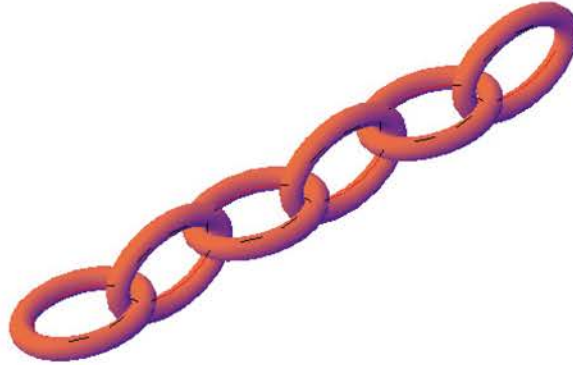

Fig. 10.17 Exercise 3
3. Each link of the chain shown in Fig. 10.17 has been constructed using the tool **Extrude** and extruding a small circle along an elliptical path. Copies of the link were then made, half of which were rotated in a **Right** view and then moved into their position relative to the other links. Working to suitable sizes, construct a link, and from the link construct the chain as shown.